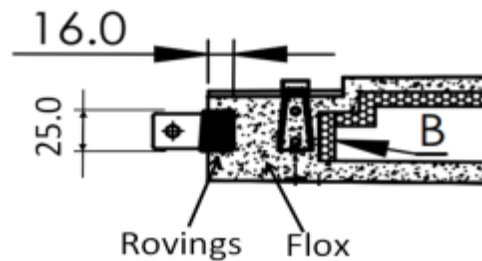

Figure 2: Flaperon structure
**CAUTION:** Ensure the slots are opened parallel to the flaperon surfaces according to Figure 2. Deviation from the drawing below may cause damage to the rovings, resulting in loss of structural integrity.